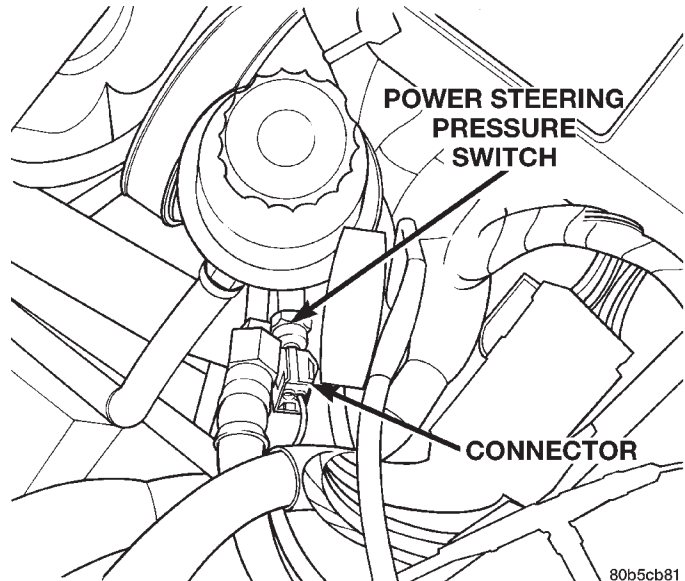

Fig. 35 Power Steering Pressure Switch Location
(2) Remove the wire harness connector on from the power steering pressure switch (Fig. 35).
(3) Remove the power steering pressure switch from the power steering pressure hose (Fig. 35).
(1) Install the power steering pressure switch into the power steering pressure hose (Fig. 35). Tighten the pressure switch to a torque of 16 N·m (140 in. lbs.).
(2) Connect the wire harness connector.
(3) Connect the battery ground cable to the ground stud located on the strut tower.